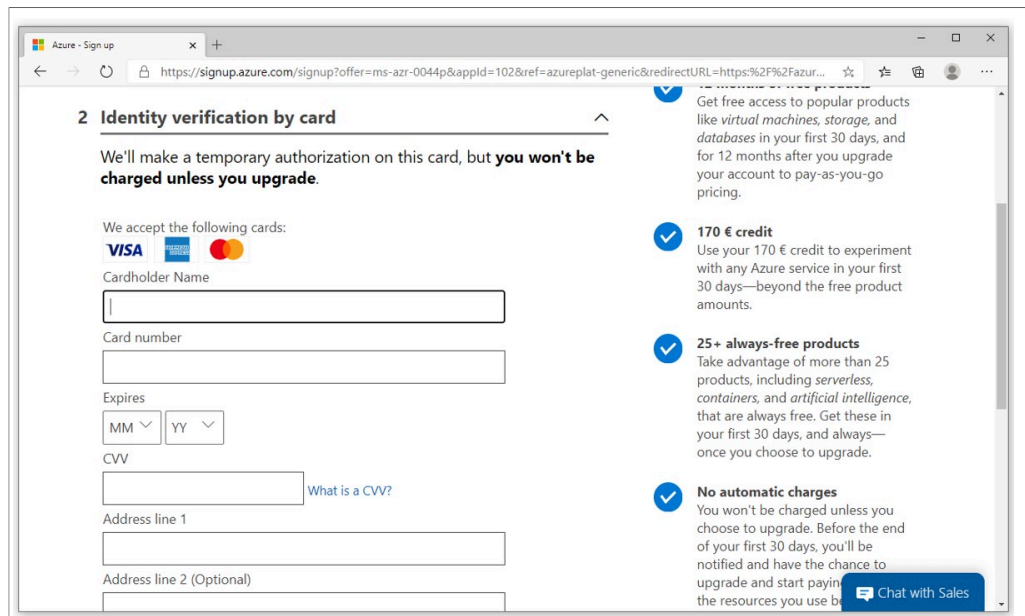

Figure 41. Azure sign up verification by card
- 3. Then, introduce your credit card details in the form shown in Figure 41. Microsoft will use it to verify your identity. There is no charge involved with the setting up of a trial account. However, there might be a record for a \$0 transaction on your bank statement.